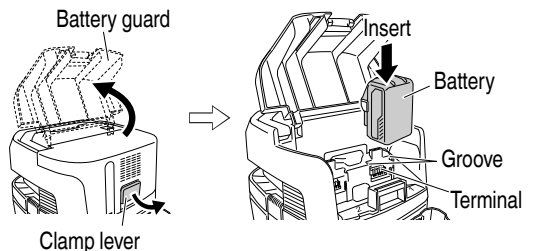

Fig. 9
4. Inserting the battery (Fig. 9)